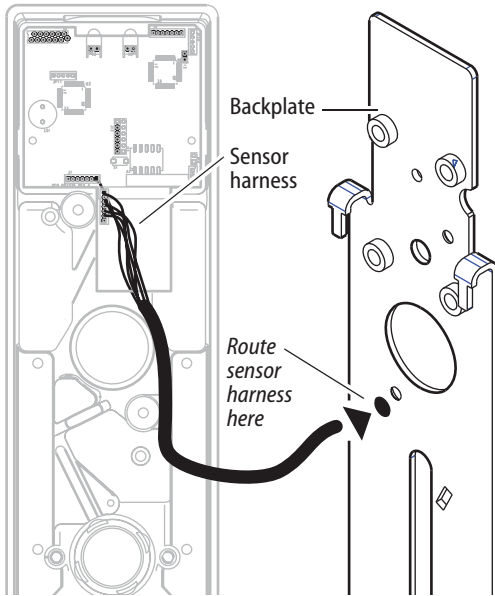

Figure 13 Re-routing the sensor harness for BEST Precision 2200, 2700 and 2800 exit devices
- 4 Re-route the sensor harness around the cylinder hole and around the escutcheon boss, then out through the alternate wire-routing hole as shown in Figure 13.